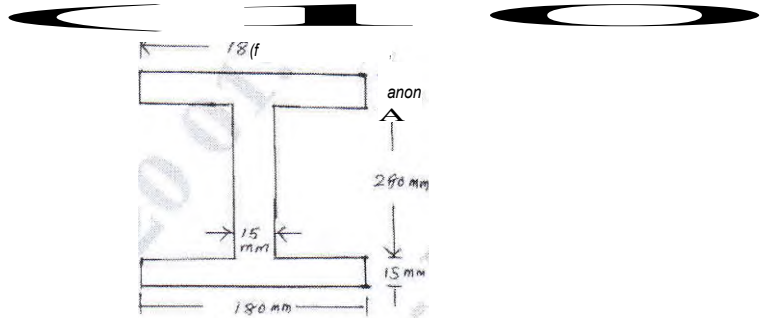

Fig. Q7 (b)
- b. A beam with an I section consists of 180mm x 15mm flanges and a web of 280 mm deep and 15 mm thickness. It is subjected to a bending moment of 120 KN-m and a shear force of 60 kN. Sketch the bending and shear stress distribution along the depth of the section. Refer Fig. Q7 (b). (06 Marks)